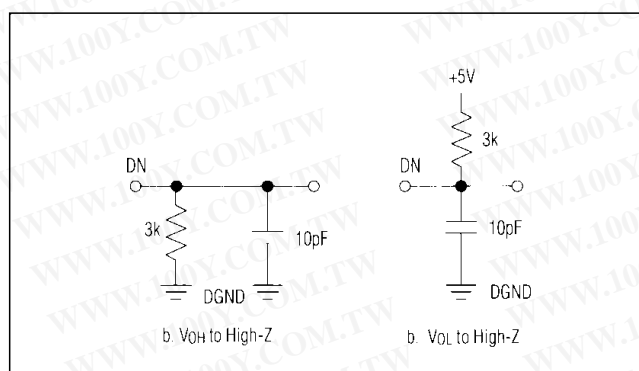

Figure 2. Load Circuits for Bus-Relinquish Time
**Note 16:** t7 is defined as the time required for the data lines to change 0.5V when loaded with the circuits of Figure 2.